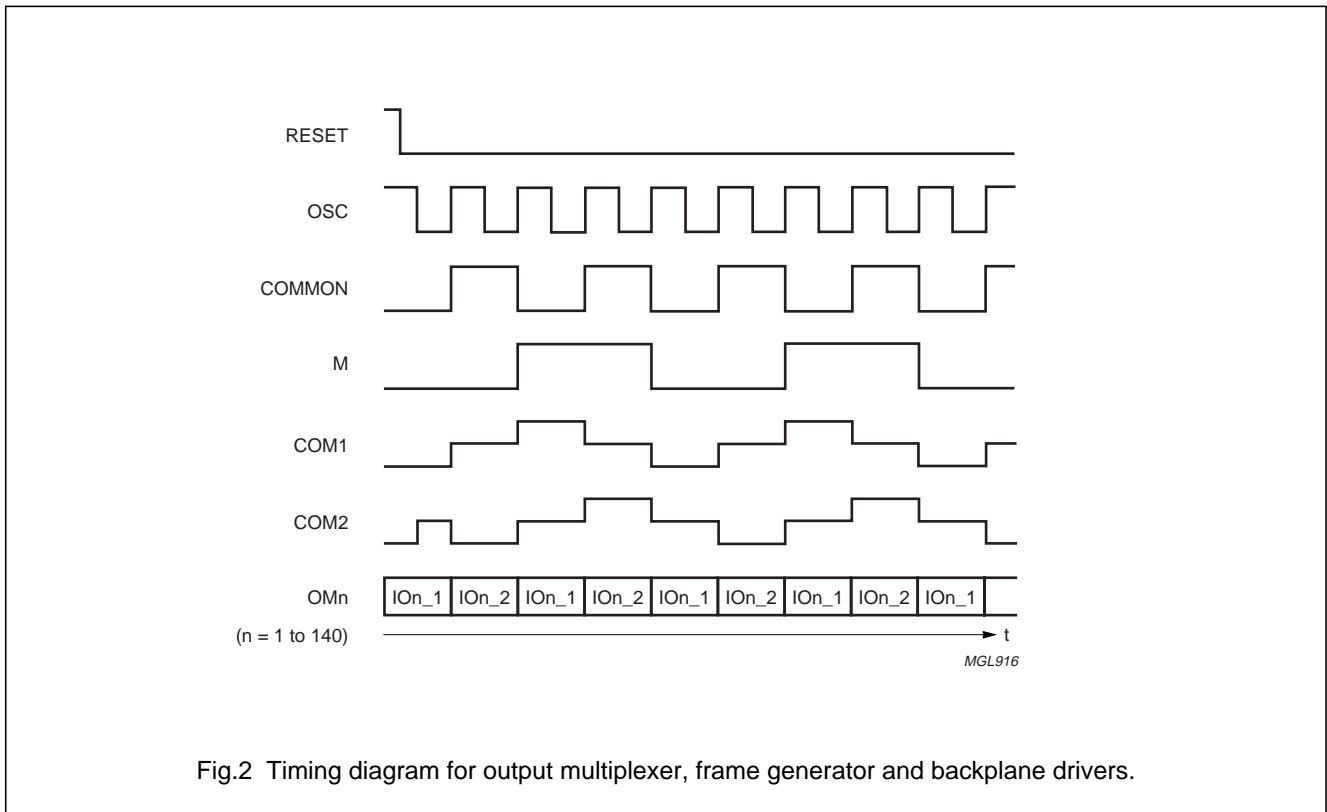

Fig.2 Timing diagram for output multiplexer, frame generator and backplane drivers.
The backplane drivers generate two output signals called COM1 and COM2 which connect directly to LCD backplane 1 and to backplane 2 respectively. These signals have 3 voltage levels called  $V_{DD}$ ,  $V_{MID}$  and  $V_{SS}$ , where  $V_{SS} = 0\text{ V}$  and  $V_{MID} = \frac{1}{2}V_{DD}$ .  $V_{MID}$  is the LCD bias voltage generated by the LCD bias generator. Figure 2 is a timing diagram for the output multiplexer, frame generator and backplane drivers.
- The backplane driver outputs (COM1 and COM2) are 0 until the first falling edge of OSCI (see Fig.2).